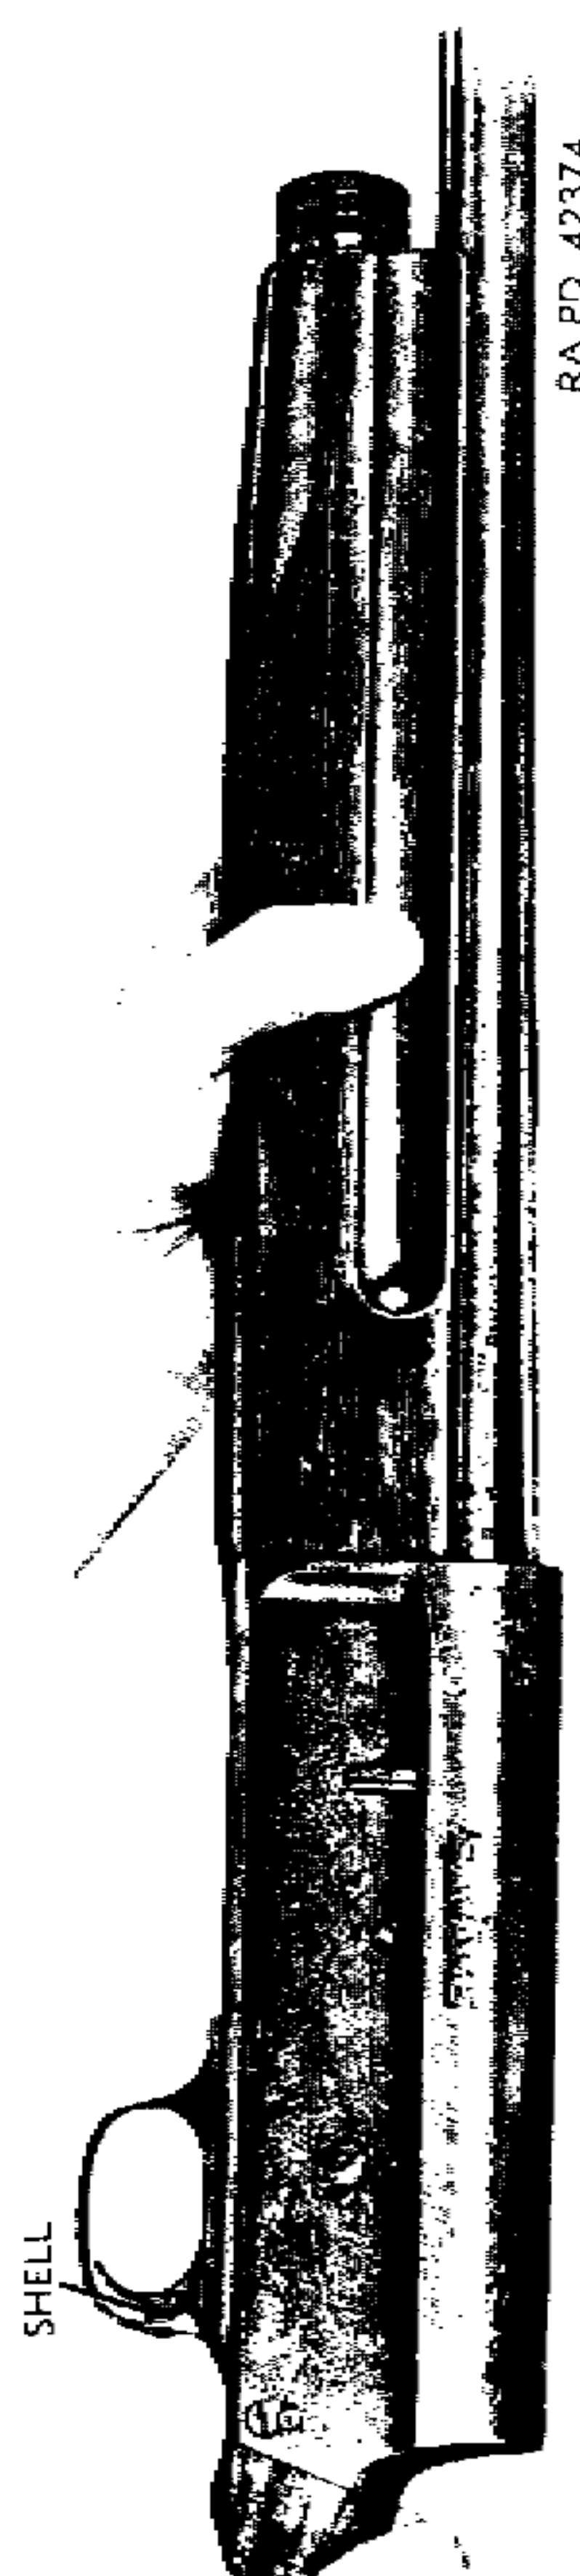

Figure 118—Operating Safety—Savage Shotgun M720
e. The trigger safety is positioned in the rear of the guard bow and operates laterally in the trigger guard (fig. 118). When pushed fully to the left, the trigger is free to be pulled and the gun fired. When pushed fully to the right, the trigger is blocked and cannot be pulled nor the gun fired. With a shell in the barrel chamber, it is best to block the trigger by pushing the safety to the right, as explained above, unless the gun is to be fired immediately.